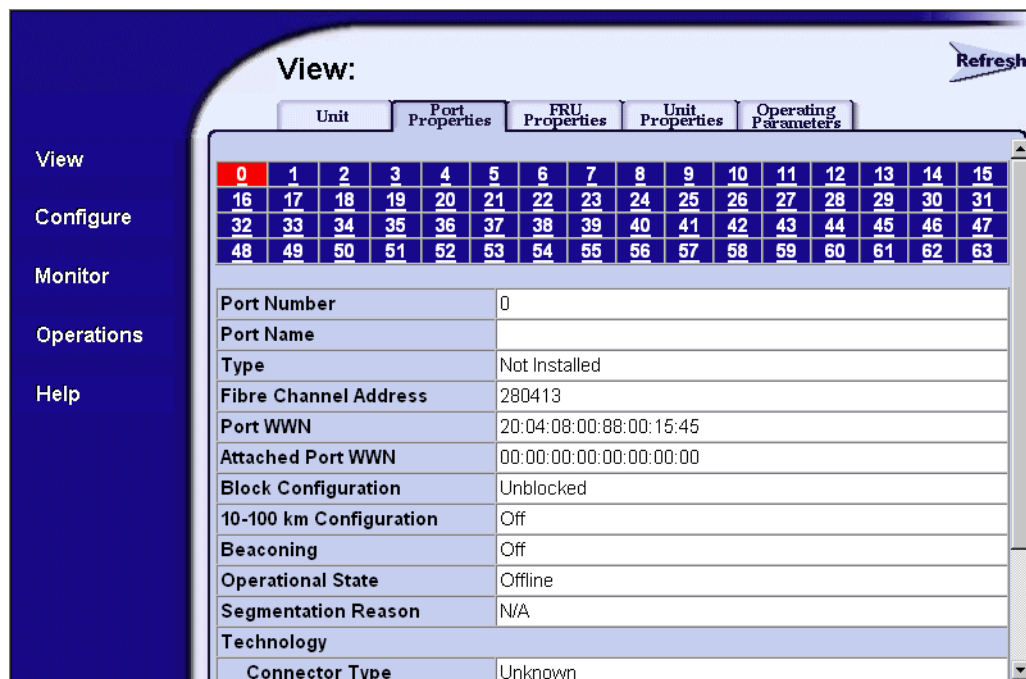

Figure 2-6: View Port Properties Panel
1. At the View panel, click the Port Properties tab. The View panel (Figure 2-6) displays with port **0** highlighted.